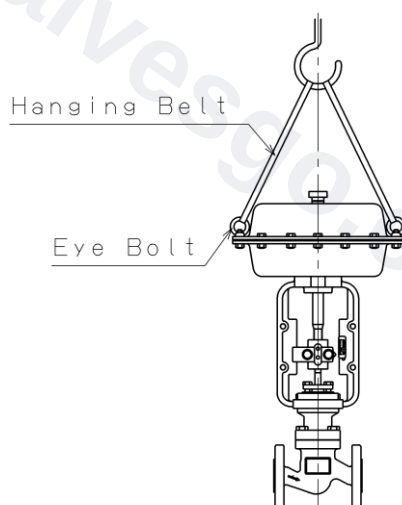

Fig.7
- (1) Due to heavy product, make sure to use hanging machine to hold the product. When hang this product up from package, use adequate hanging belt. Eye bolt is installed at actuator in aim of hanging. When using eye bolt, use both eyebolt and make hanging belt same load at both side. (See Fig.7)